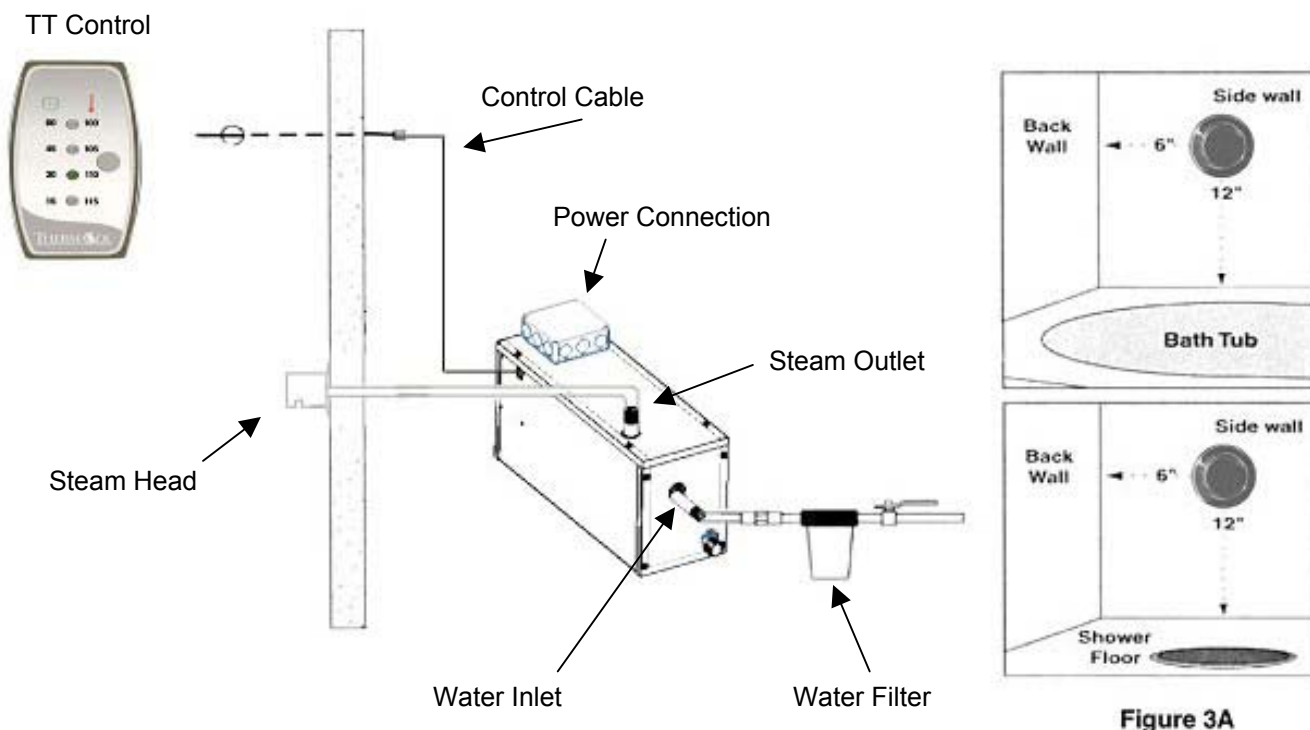
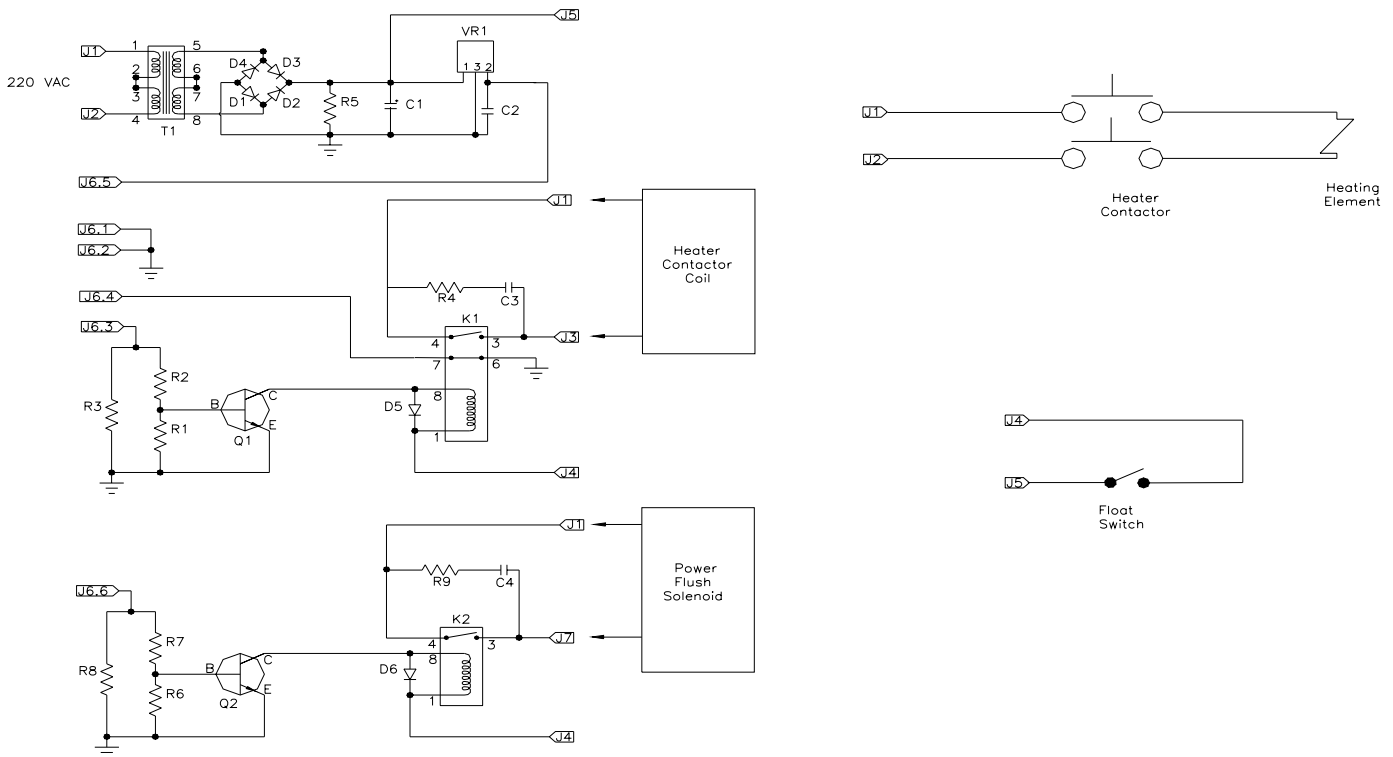

Figure 3
Figure 9
Refer to figure 3 for the following:
2. Plug Connect 230-volt AC electrical lines to wires labeled 1 & 2 in junction box on generator, (see figure 3 and figure 9).